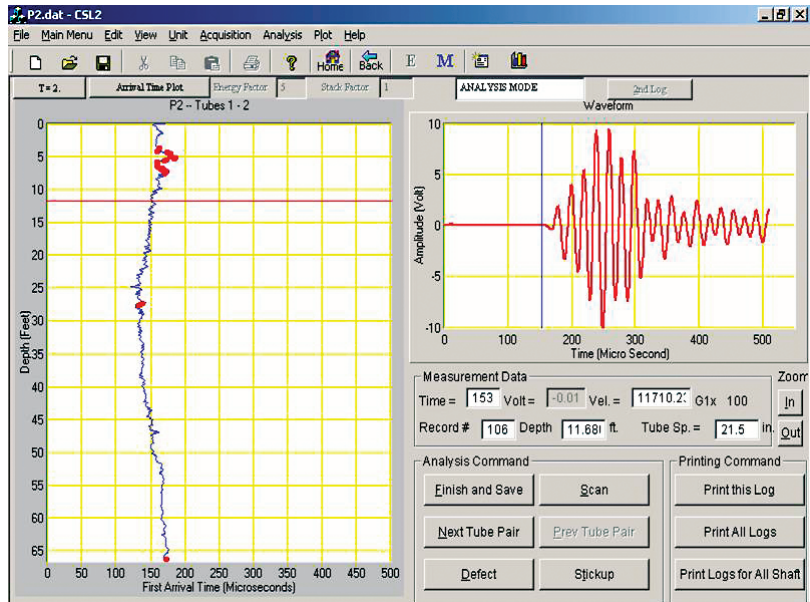

Figure 21: Data in the Analysis Mode (showing Waveform of Fig. 20)
Simply use "Alt + Arrow Keys" (Up and Down) or mouse (click approximately at the trace on the plot) to move the cursor to the desired record. If users desire to move faster, use "Alt + Home" to go to the top record, use "Alt + End" to go to the bottom record, use "Alt + Insert" to move 12 records up and use "Alt + Delete" to move 12 records down. Note that the cursor is designed to snap to the line plot so the mouse click has to be at (or close to) the line. The waveform plot (the right plot) shows the current record according to the cursor in the left plot (see Fig. 21).
1. First Arrival Time (FAT) plot: Alt + 1 or Plot/Log, Plot/Arrival, Time Plot (see Fig. 21)